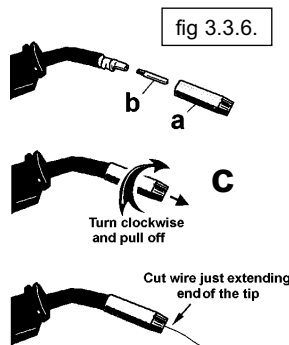

fig 3.3.6.
3. 3. 6. Remove gas cup (fig 3.3.6.a) and contact tip (b) from end of torch as follows: